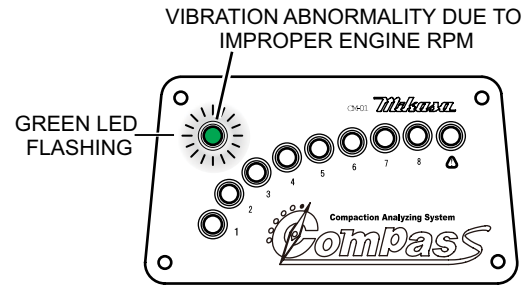

Figure 28. Vibration Abnormality Improper Engine RPM's
2. When appropriate vibration frequency cannot be achieved during operation due to improper engine RPMs (Figure 28) the green LED will flash. When this occurs check the engine RPMs and the V-belt tension as it could be loose.